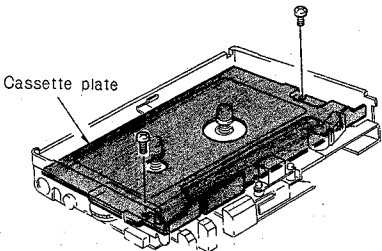

Fig. 2
- 1) Remove the 2 screws. (See Figure 2)